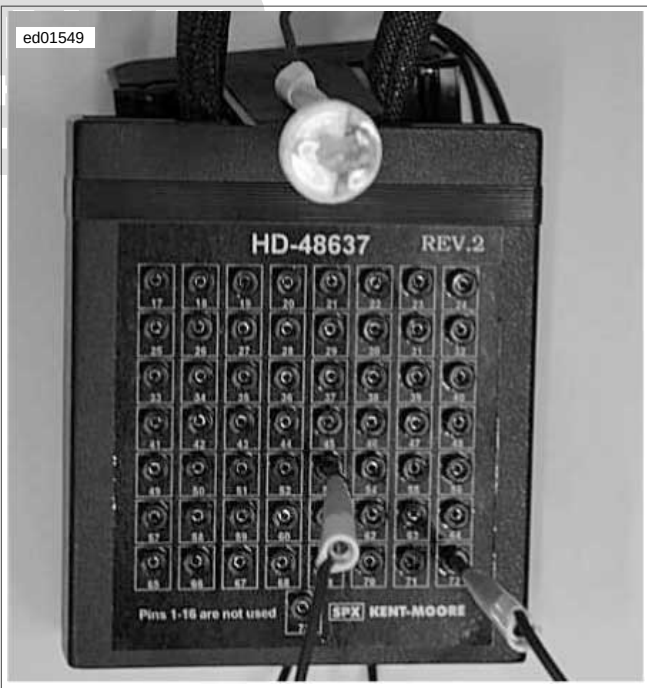

Figure 4-16. Ignition Coil Circuit Test
6. See Figure 4-16. Plug IGNITION COIL CIRCUIT TEST ADAPTER (Part No. HD-44687) and FUEL INJECTOR TEST LAMP (Part No. HD-34730-2C) into Breakout Box